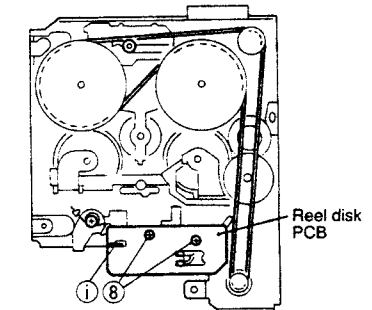

Fig. 20
◆ **Removing the reel disk PCB (See Fig. 20)**
5. Straighten the curved tab ① securing the reel disk PCB. (Fig. 20)
6. Remove the two screws ⑧ fixing the reel disk PCB. (Fig. 20)